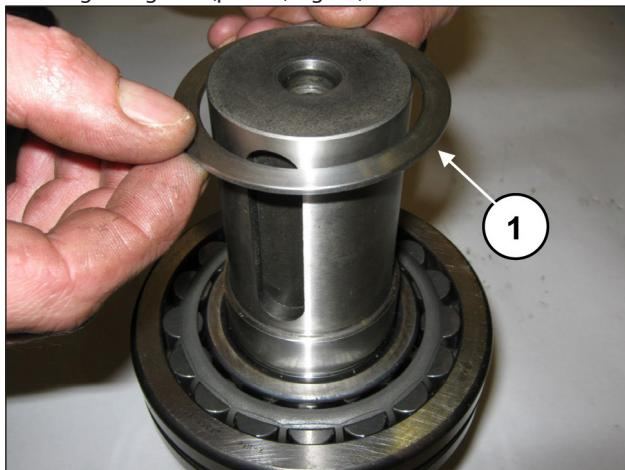
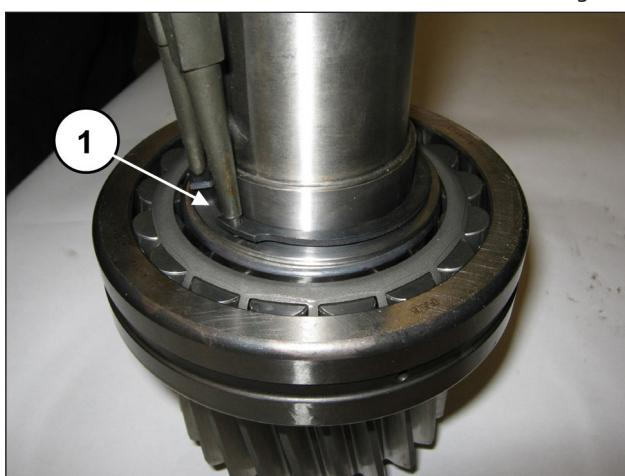

Fig. 85
Fig. 86
Insert the bearing support ring (pos. ①, Fig. 85) and position the Seeger ring Ø55 (pos. ①, Fig. 86).